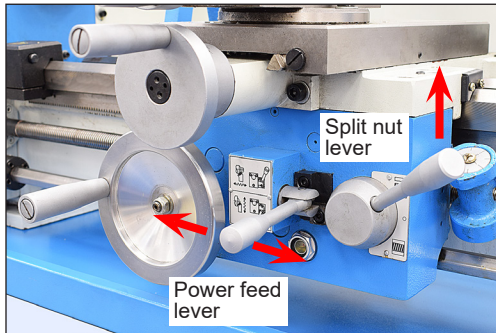

Figure 1-4 Feed levers neutral
9. Make certain that the power feed and split nut levers are disengaged (neutral), Figure 1-4. **HINT:** If the power feeds are disengaged, it will be possible to move the saddle and cross-slide by their handwheels.
With the spindle stationary, use the handwheel to run the saddle back and forth a few times from headstock to tailstock (if the handwheel cannot be turned, check that the power feed lever and half-nut lever on the apron are in neutral, Figure 1-4). With the power feed lever still in neutral, run the cross-slide front to back a few times.
1. With the power feed and split nut levers in neutral, Figure 1-4, run the spindle for a few minutes, forward and reverse, at various speeds in both speed ranges (transfer the Vee belt from inner to outer pulley grooves to change speed range).